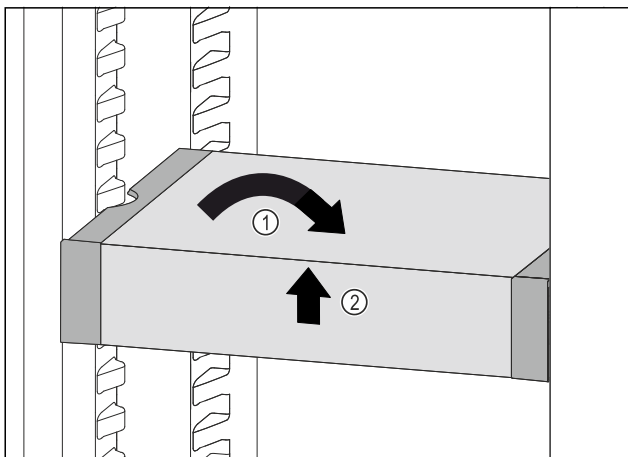

Fig. 102
- Set VarioSafe straight. Fig. 102 (1)
- Lift VarioSafe at the front. Fig. 102 (2)